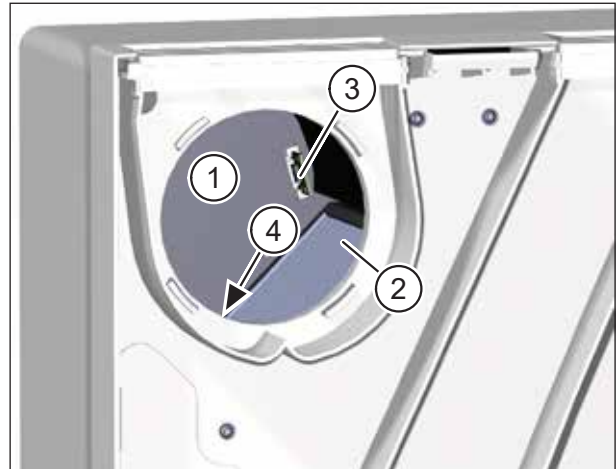

Fig. 9: Clean filter base on extract air side if necessary
- ▶ Check the filter base on the extract air side (item 1 in Fig. 9) for soiling.
- ▶ Cover the heat exchanger (item 2 in Fig. 9) with a lint-free cloth. This will prevent dirt getting inside the heat exchanger.
- ▶ When cleaning, be careful not to damage the optional humidity sensor (item 3 in Fig. 9) or optional CO2 sensor (item 4 in Fig. 9).